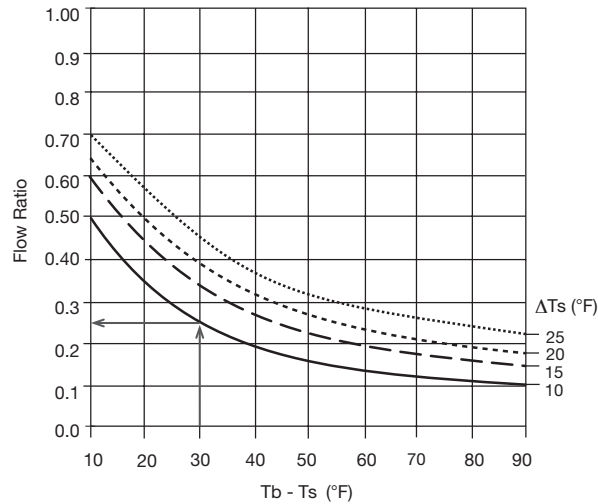

Figure 2
3. Compute Tb - Ts. Look up the flow rates on Figure 2.